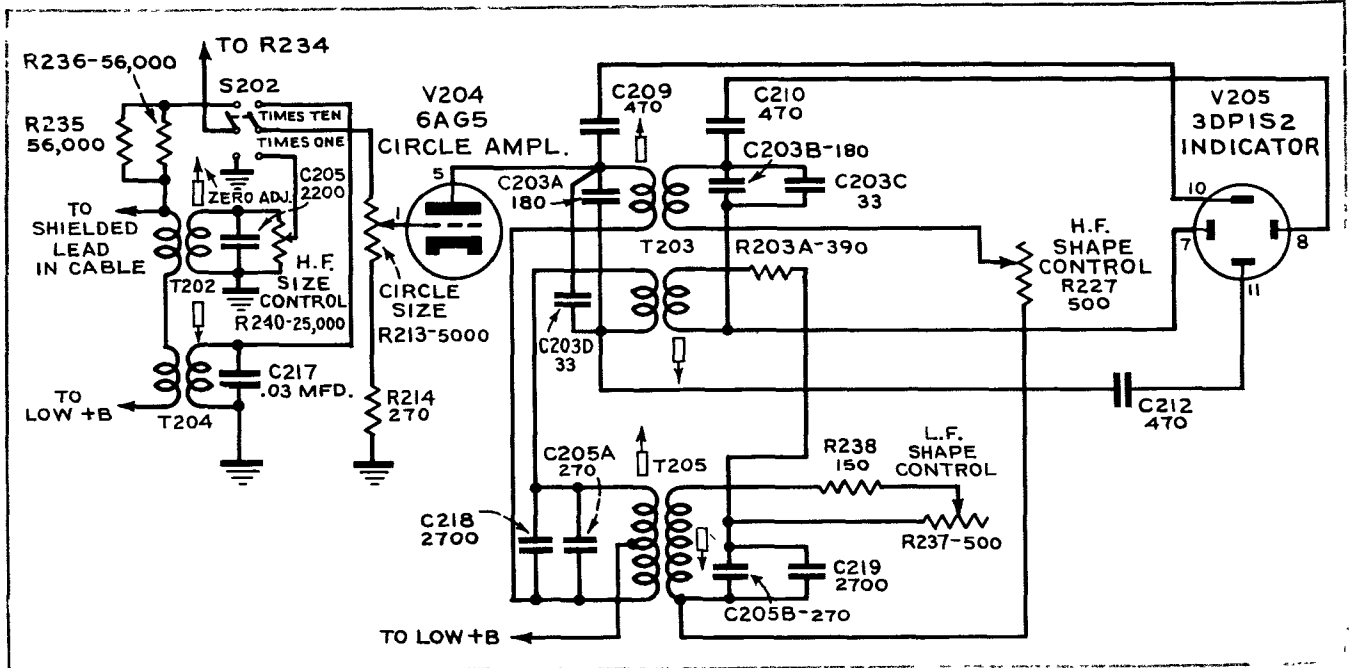

Figure 4-7. Indicator I-152-A—Functional Circle Forming Diagram
b. The transmitter crystal timing oscillator (tube V111) furnishes essentially sine-wave voltages to a shielded lead which is one of the leads in the interconnecting cable joining the radio receiver and transmitter and the indicator. This lead is fed to transformer T202 which serves two purposes; the first, to isolate the B+ voltages from the grid of the circle amplifier (tube V204) and to pass only the a-c timing voltages to this grid. Its other purpose is to function as a zero adjustment for correction of the positioning of the zero pulse. (See figures 4-7 and 4-8.) Voltage appearing across the primary is 90° out of phase with the voltage across the secondary and these voltages are applied through coupling capacitors C209, C210, and C212 to the vertical and horizontal deflecting plates of the cathode ray tube (V205). Centering controls R225 and R222 introduce the d-c voltages necessary for positioning the trace with respect to the calibrated scale. Shape control R227 and compensating resistor R203A control the relative voltages applied from the primary and secondary of transformer T203. This is necessary for producing a truly circular trace. Indicator I-152-B or I-152-C has an additional circle output transformer, tuned to 9.8 kilocycles connected in series with the 98-kilocycle transformer to produce a circular trace at either timing oscillator frequency. The 9.8-kilocycle transformer has its own circle shape control. These controls are located inside the indicator together with other service adjustment controls, "BRIL.," "FOCUS," "HORIZ.," and "VERT., CENTERING." These are accessible through labeled openings in the bottom of the case cover if adjustment is required.